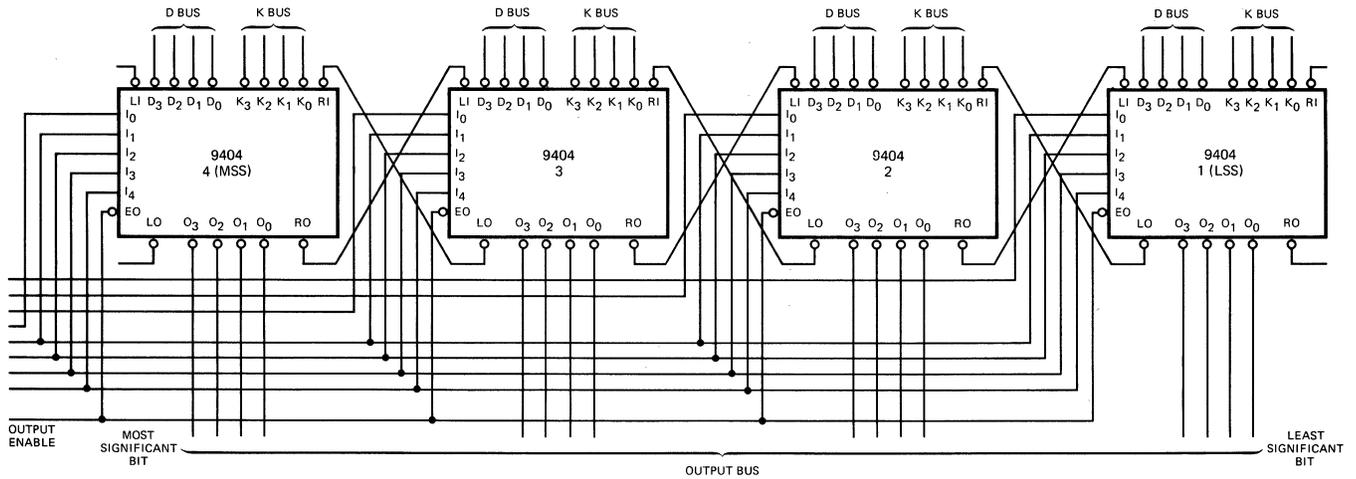

Fig. 1 16-BIT 9404 ARRAY
**9404 ARRAYS** – Arrays of larger than 4-bit word lengths are easily obtained. Figure 1 illustrates a 16-bit array constructed using four devices; device 1 is the least significant and device 4 is the most significant slice. Within each slice, inputs and outputs with '0' subscript are the least significant bits.